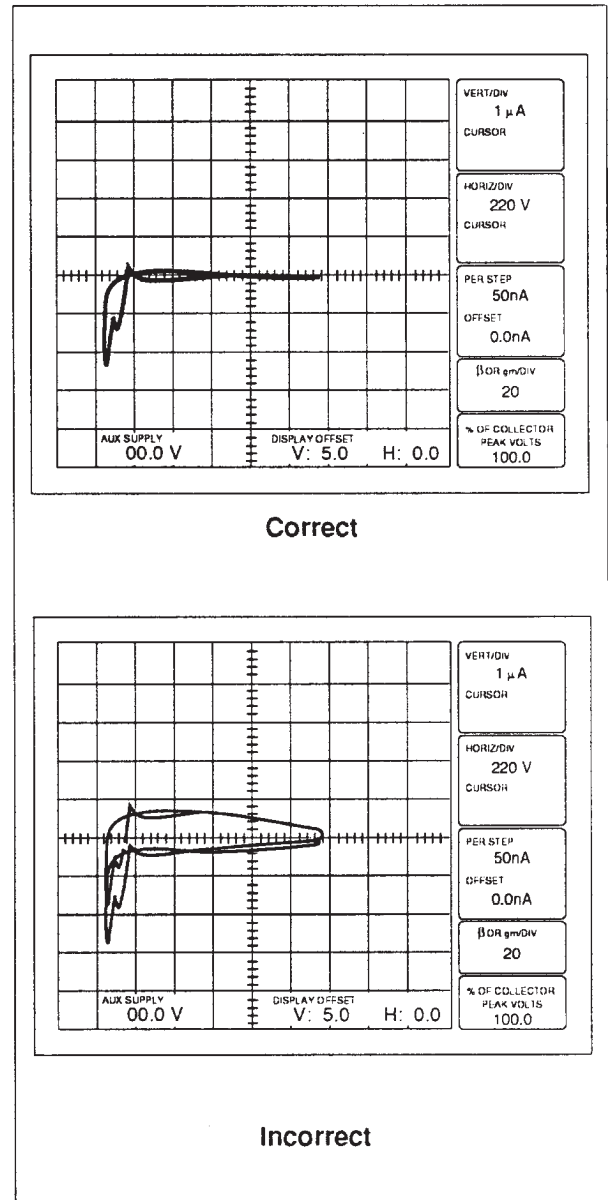

Figure 4-2. Looping compensation display.
i. ADJUST R503 2000 V LOOPING adjustment on the A35 Looping board for optimum overlay of the left portion of the loop. See Figure 4-2.
- s. EXAMINE the left portion of the displayed trace for optimum overlay (see Figure 4-2).
- v. EXAMINE the left portion of the displayed trace for optimum overlay of the trace (see Figure 4-2).